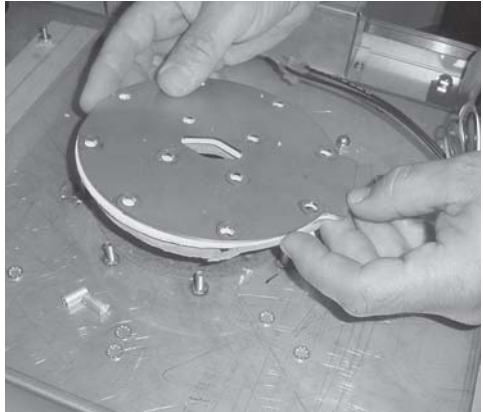

Figure 3-47
6. Pull plate and insulation from unit and discard plate and insulation. Figure 3-47.